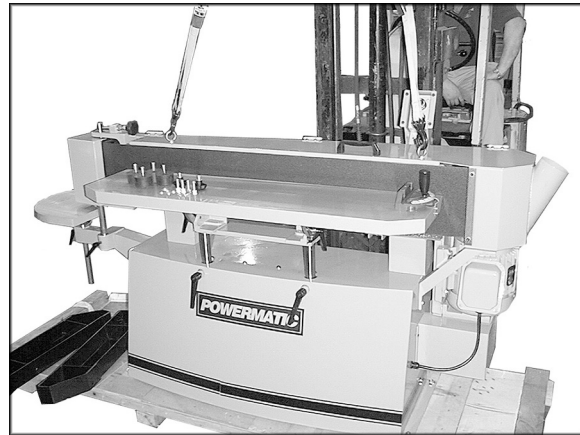

Figure 1
- 3. Lift the machine from the skid with a hoist or forklift by attaching straps to the eyebolts on top the sander. See Figure 1. **DO NOT** fork beneath the main table, or damage to the table may occur.